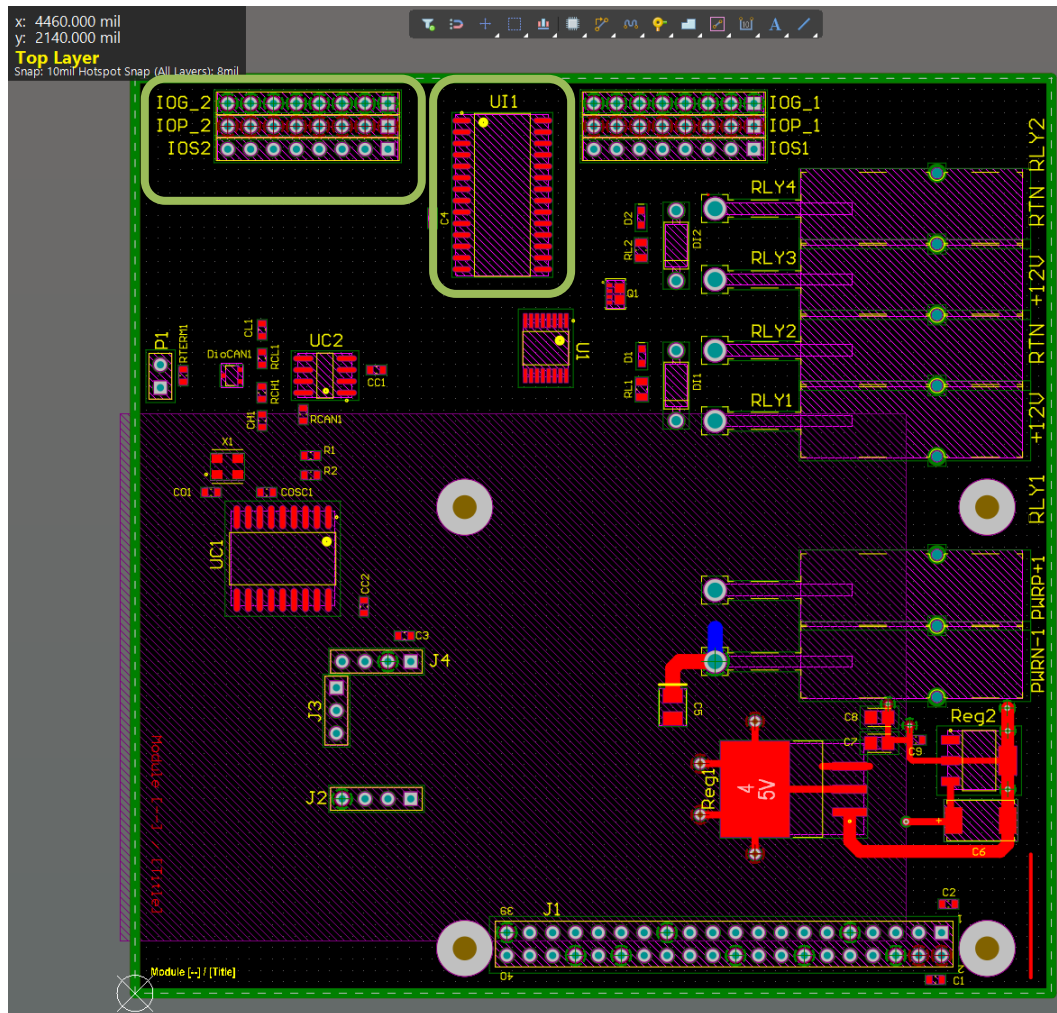
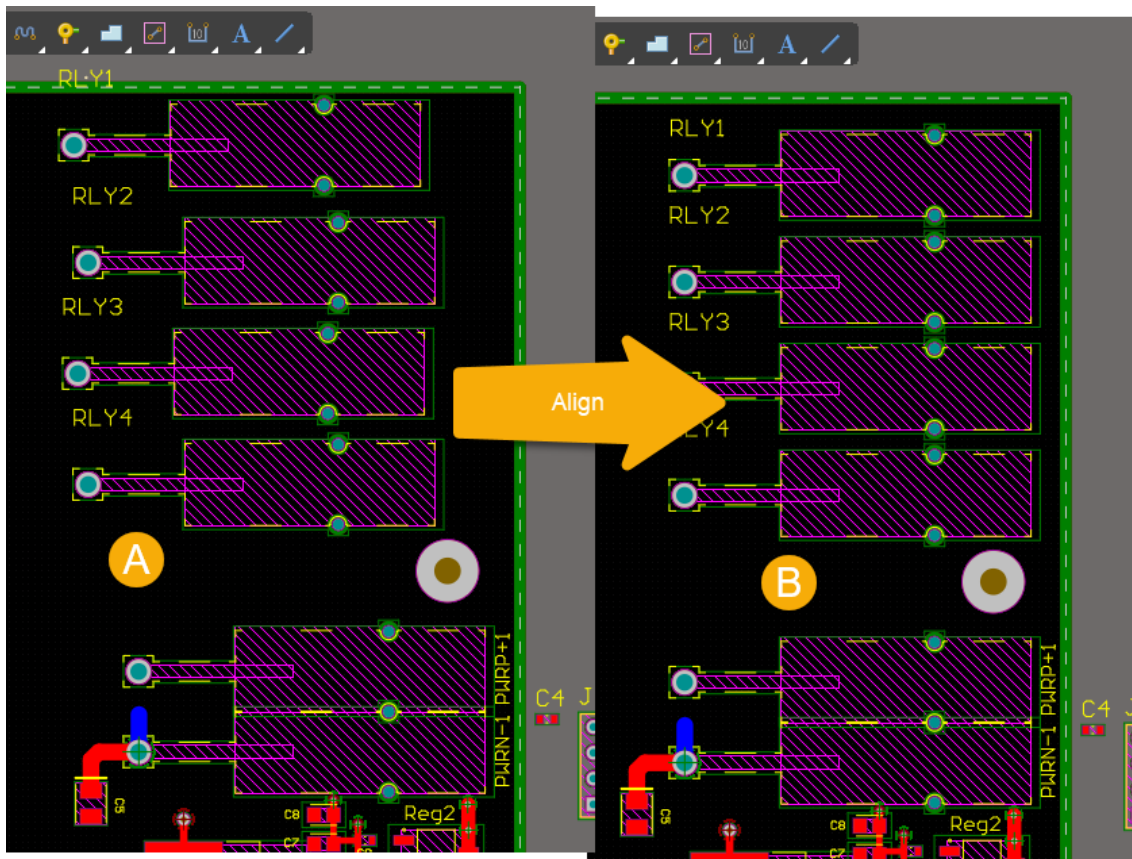

Figure 10. Placement for WCTopping training PCB
Figure 11. First placement for Anderson RLY1-RLY4 and the final position after using the Align commands
32. Continue placing components using the methods below, using Figure 10 as possible reference (may not exactly match the view displayed in Altium Designer).
- Use the **Move** command using the **Edit » Move » Move (M, M)** hotkeys and left-click on component **IOG_2** and move to its new position as shown in Figure 10.
- Still in the Move command, select **IOS2** and **IOP_2** and place them below **IOG_2**, Figure 10.
33. Continue placing components using the methods below, while using Figure 10 as a reference:
- Use the Move command using the **Edit » Move » Move (M, M)** hotkeys and left-click on component **UI1** and move to its new position as shown in Figure 10.
Next, position components RLY1, RLY2, RLY3 and RLY4 so that the result looks similar to Figure 10.
34. Select components RLY1, RLY2, RLY3, and RLY4 and position the Anderson Connectors as seen at Figure 11 A.
The position does not need to be exact. Position the four Anderson connectors in a way that they are more to the left as the 2 Anderson connectors already placed with the Union Power Supply WCTopping reuse block, Figure 11 A.
- c) Your result should be similar to Figure 11 or Figure 10.